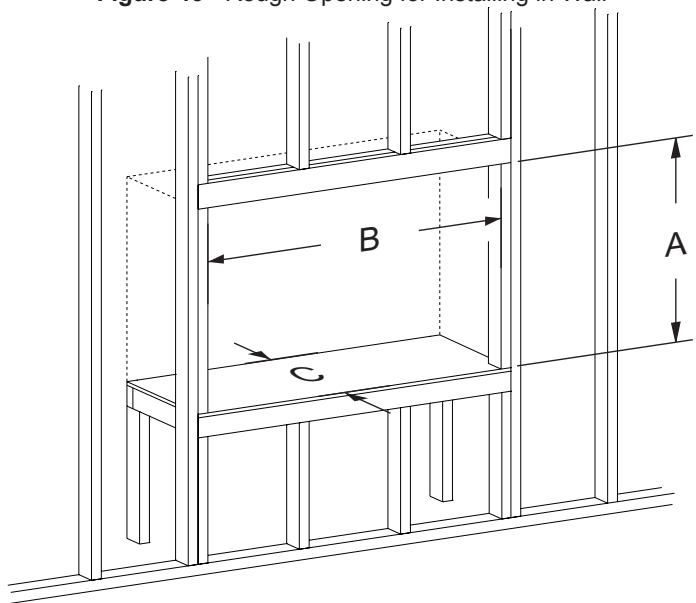

Figure 47 - Rough Opening for Elevated Installation
- Use **Figure 47** for an elevated installation. Provide support to the bottom of the fireplace.